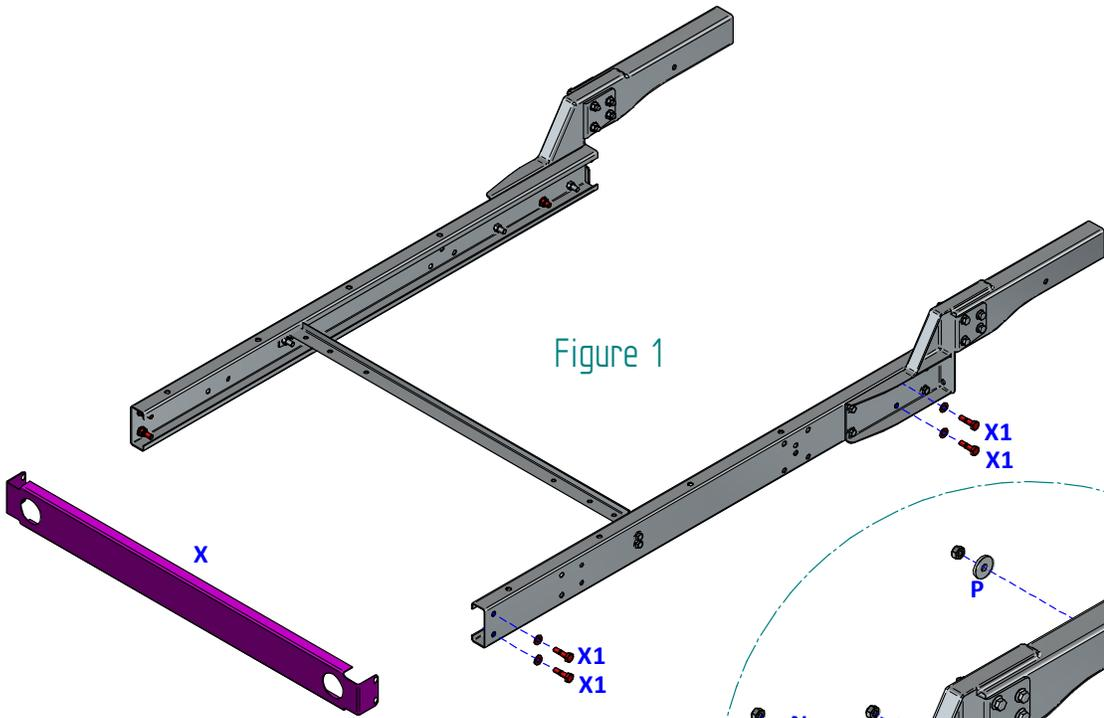

Figure 1
**Note:** The main Towbar exploded diagram is shown on Page 1 below. Figures 1 to 3 are shown on Page 2.
### Preparation for installation (See Figure 1):